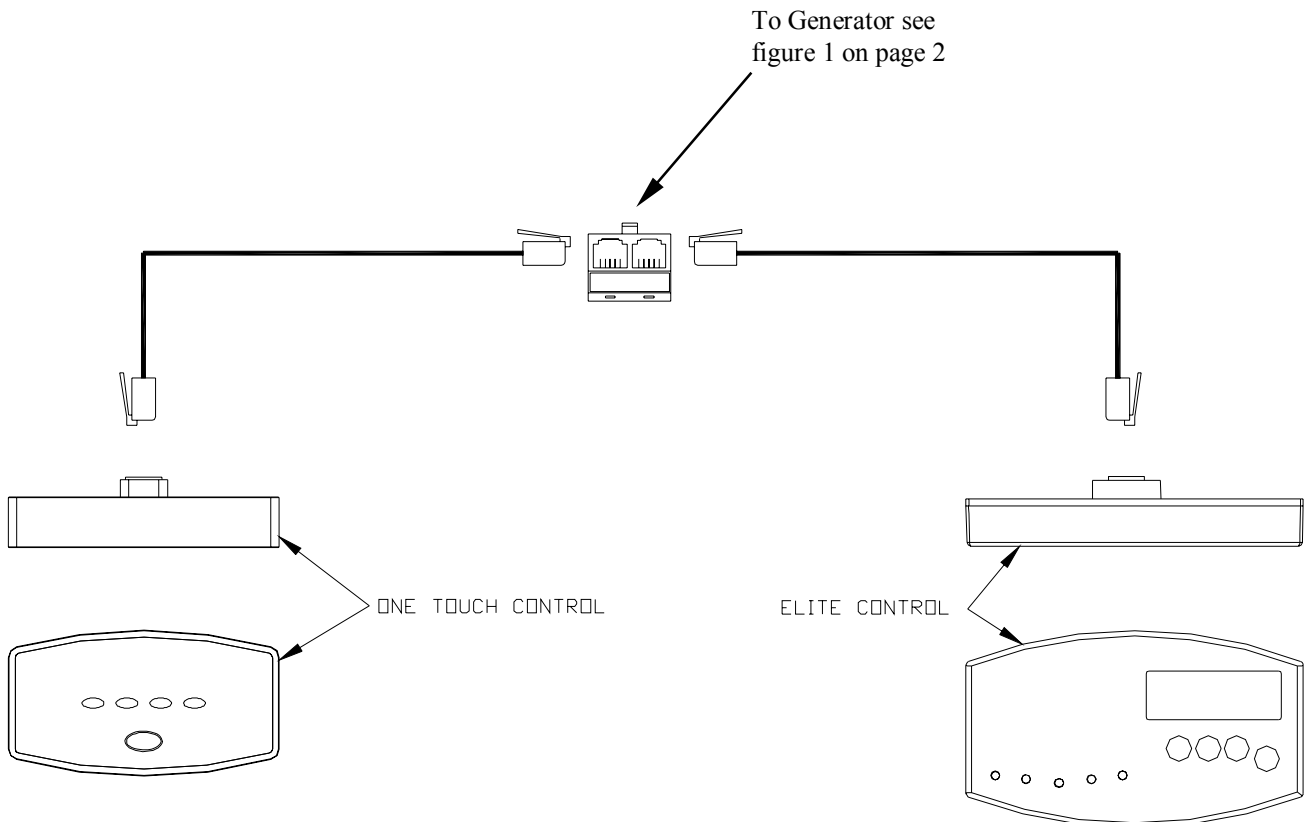

**Figure 11**
7. **THESE STEPS MUST BE TAKEN OR YOUR WARRANTY WILL BE VOID.** Coat the entire control back with supplied waterproof silicon. Completely seal the control to the wall so moisture does not get behind it. Place the control on the wall pressing firmly. You may need to tape the control into place until the silicone dries. Be careful not to harm the wall/control with the tape. Refer to figure 11. **Let dry for 24 hours before using steam bath.**